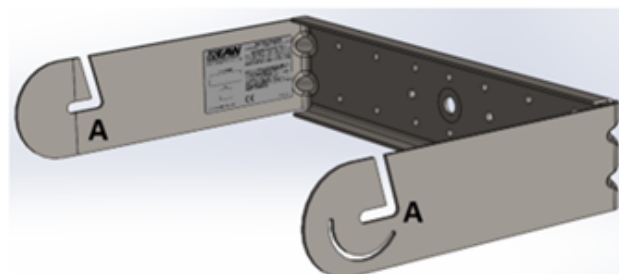

Figure 1 - Horizontal Configuration
b. Configurations - Depending on mounting option used, the MKC Series U-Brackets may be installed horizontal (back and arms are level/parallel to the ground - figure 1) or vertical (back and arms are plumb/perpendicular to the ground - figure 2). MKD526 U-Brackets may only be used in a horizontal orientation. If a vertical deployment is needed, the Yoke bracket may be used.
NOTE: the outermost mounting point "A" is designed as an open slot to allow for easy locating of an MKC Series or MKD526 Loudspeaker and loosely pre-installed hardware. If using the slotted mounting point, the bracket must be installed oriented with the slot angled upward as visually shown in Figure 1, opposing the ground.
c. Level - The back flange of the brackets must be level when installed to the mounting surface for either figure 1 or 2 orientation and before installing an MKC Series or MKD526 loudspeaker to the bracket. Any geometric or structural modifications to the brackets or hardware that are not EAW-approved will void the warranty and may result in damage, injury, or death.